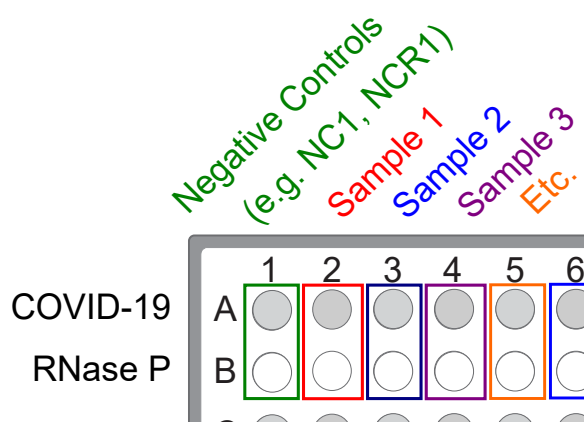

Figure 2 Paired sample and Negative Control wells for each assay
- b. Unseal the extraction plate, then add the Negative Control from the single well of the extraction plate to wells A1 and B1 of the reaction plate, as shown in Figure 2 on page 56.